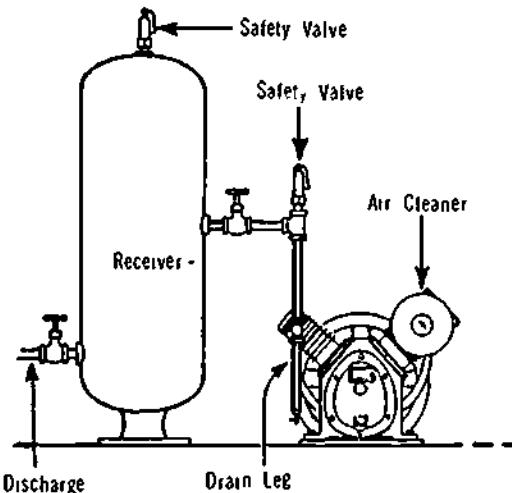

Figure 32-6. Typical Overhead Piping Arrangement for Base or Sub-Base Mounted Units
If a compressed-air tank or receiver is part of the system, run the piping down from the compressor discharge to permit condensate to drain into the receiver. If this is not possible, install a drain leg similar to the one illustrated in Figure 32-6. If the air system is large enough in volume so that an air receiver is not needed, a condensate leg with drain valve should be placed in the piping at a joint as far from the compressor as possible and just ahead of the point at which the air is used. The leg should be kept drained by a drain cock, and all the piping should slope toward it. Water in compressed air will cause operating difficulties. Large amounts will cause "water hammer" in pipe lines and reduce the capacity of the lines; it washes away lubricants in pneumatic tools and produces internal corrosion. Oil that is also carried along in suspension with the water must also be removed from the system via the leg drains, or receiver. The drain leg should project down from the compressor discharge and be at least 250 mm. The drain valve installed at the end of the leg should be opened at least weekly under normal operating conditions, and more often in a wet, humid climate.
9. WARNING! Never install a shut-off valve (such as a gate or globe valve) between the compressor and the receiver unless a safety valve is put in the piping between the valve and the compressor. (See Figure 32-6.) Safety valves are normally set to release 70 kPa above operating. Safety valves must never be replaced by plugs even for short periods. Figure 32-6 shows a typical overhead installation.